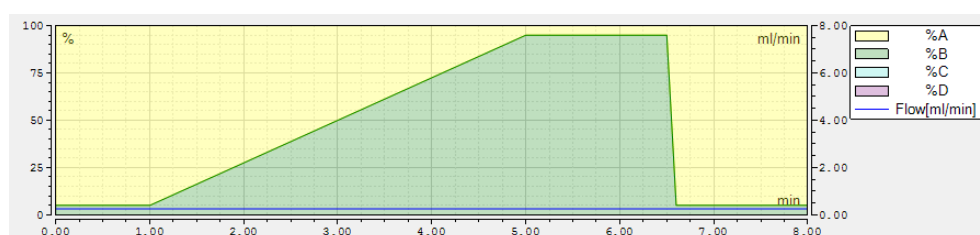

Figure 9. Gradient Profile for Chlorophenols Analysis.
6.2.1.2. The mobile phase gradient is done following Table 6. The gradient profile for Chlorophenols Analysis is shown in Figure 9.